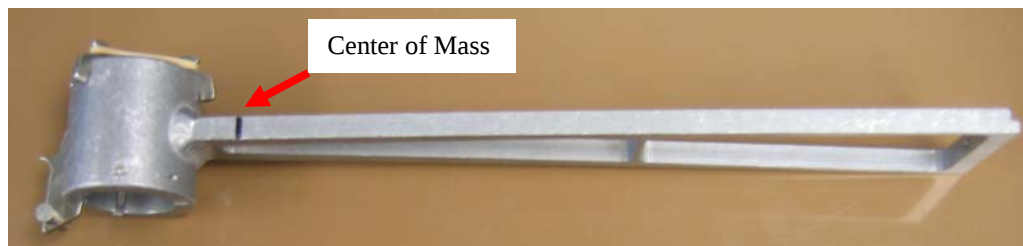

Figure 6-4. Center of mass marking on pendulum truss.
- Remove the pendulum truss (9) from the pendulum support by unscrewing the knurled nut (15).
- The center of mass for the combined pendulum and ball system should be marked with a black line on the pendulum truss (9) relatively close to the pendulum bob (10). See Fig. 6-4. You will use this mark when measuring the distance from the top of the pendulum to the center of mass.